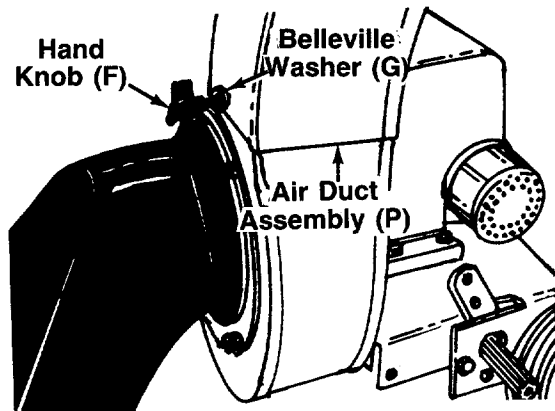

FIGURE 6.
Place air duct assembly (P) over opening on top of housing. Secure with two hand knobs (F) and Belleville washers (G) (cupped side of washers against the air duct assembly). See figure 6.